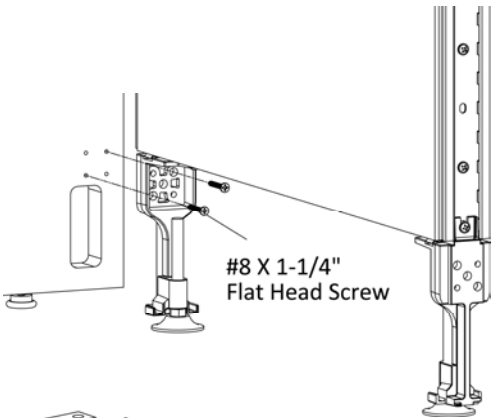

Figure 3
- Drive two #8 x 1-1/4" Flat Head Screws through the holes in standard panel leg into the pre-drilled holes of gallery panel, (Figure 3).